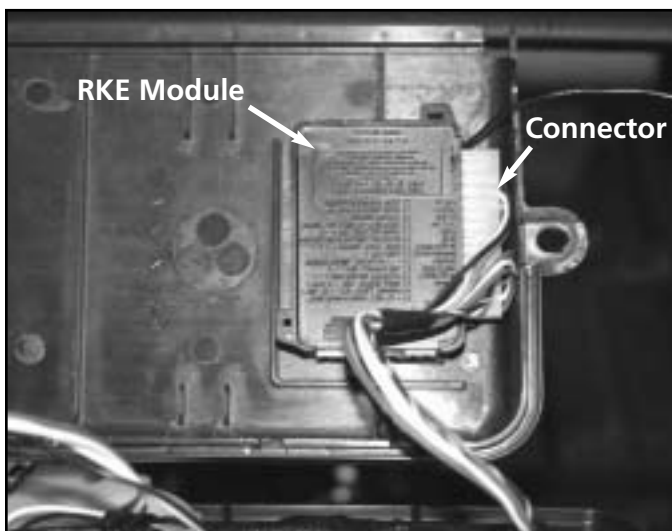

Figure S-52
5. Remove the motor cover and position it upside down in order to expose the RKE module. See figure S-52.
15. Attach the RKE module to the adhesive tape and properly route the antenna. Refer back to figure S-52.